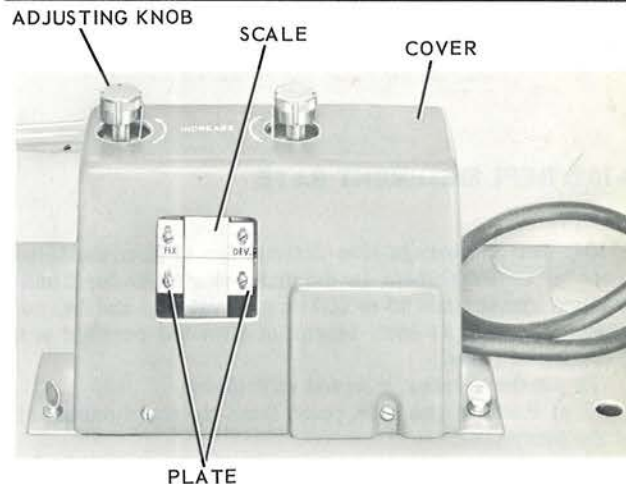

FIGURE 43 REPLENISHER PUMP ASSEMBLY
d. Each notch on the ADJUSTING KNOBS, figure 43, equals approximately 3 cc. For more replenishment, turn the knob counterclockwise.
- Remove the REPLENISHER PUMP ASSEMBLY, figure 43, from the processor.